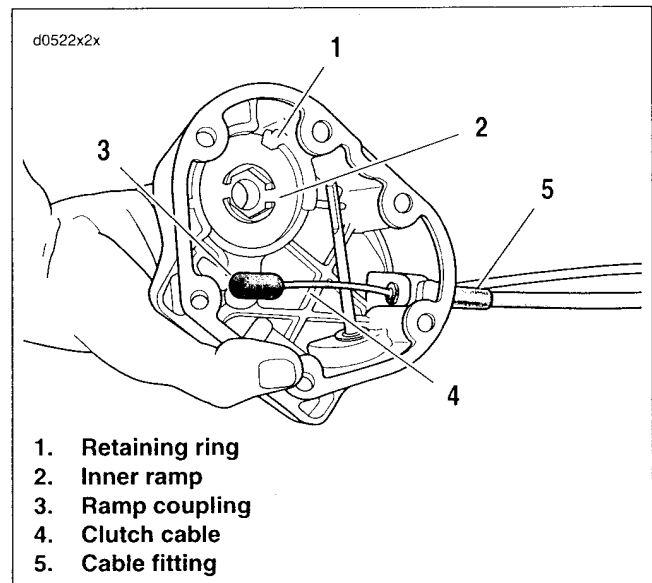

Figure 2-115. Clutch Cable Connection
4. See Figure 2-115. Note position of retaining ring opening. Retaining ring opening must be positioned in approximately the same location during assembly. Remove retaining ring (1).
5. Pull inner ramp (2) and coupling (3) out of side cover. Hold inner and outer ramps together to keep balls from falling free.
6. Rotate the inner ramp to a position which will allow the coupling to be disconnected from the inner ramp lever arm. Disconnect coupling from inner ramp. Disconnect cable end (4) from coupling.
7. Back out threaded cable fitting (5) from side cover.
1. See Figure 2-115. Thread clutch cable fitting (5) into side cover. Do not tighten at this time.
2. Connect cable end to coupling (3). Rotate ramps for best access and install coupling on inner ramp (2). Place ramp assembly in position in side cover.
3. Install retaining ring (1). Position retaining ring opening so it is located approximately over the outer ramp tang (the stop that prevents rotation).